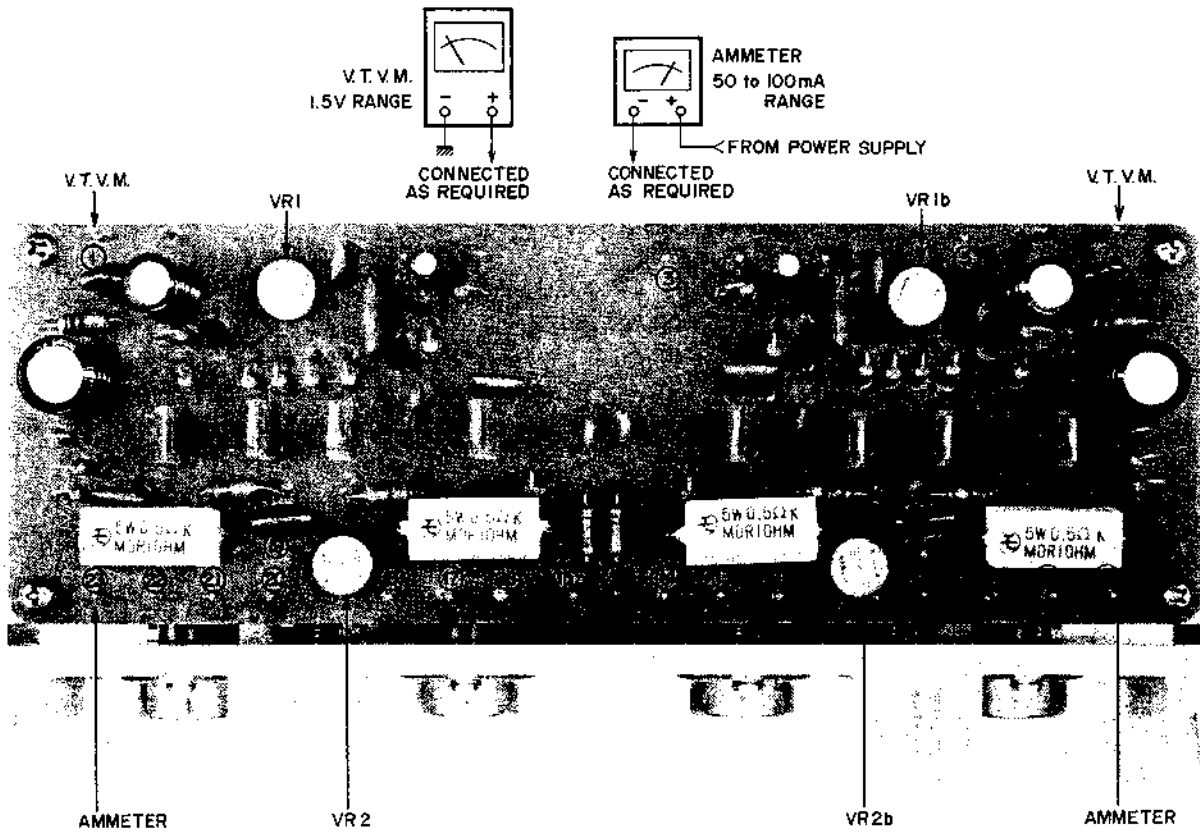

Fig. 23 POWER AMP. P.C. BOARD 94-5013
- 1) Disconnect the lead wires (Red) of terminals (7), (23) of Power Amp. P.C. Board from power supply.
- 3) Adjust Power Amp. P.C. Board semi-fixed resistors VR2 100B(Left), and VR2b 100B(Right) shown in Fig. 23 to obtain a 40 mA ampere meter indication on both left and right channels.
## 2. ZERO ELECTRICAL POTENTIAL ADJUSTMENT (Refer to Fig. 23)
- 1) Set V.T.V.M. to 1.5V D.C. range and connect between terminals (1), (6) of Power Amp. P.C. Board and ground.
- 2) Adjust semi-fixed resistors VR1 300B(Left) and VR1b 300B(Right) shown in Fig. 23 to obtain a "0" V V.T.V.M. indication.